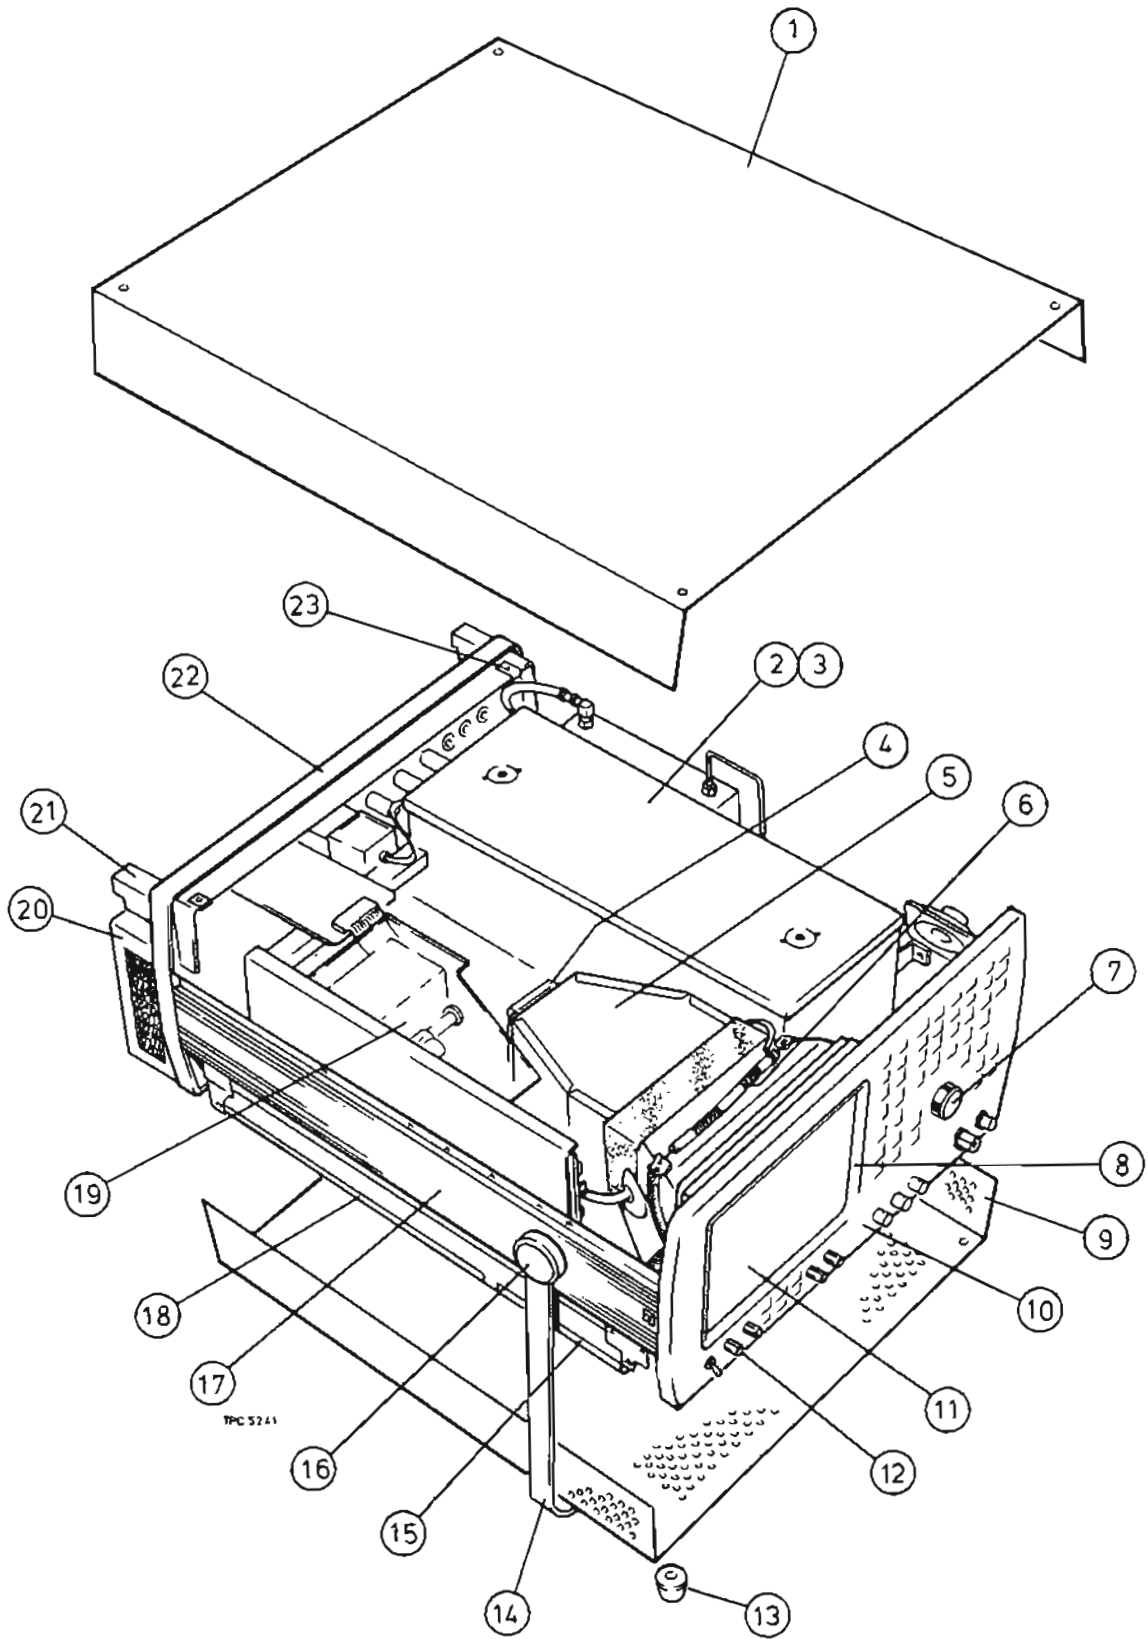

Fig. 1 Miscellaneous mechanical parts
31. Order without prefix. Item numbers as shown in Fig. 1.